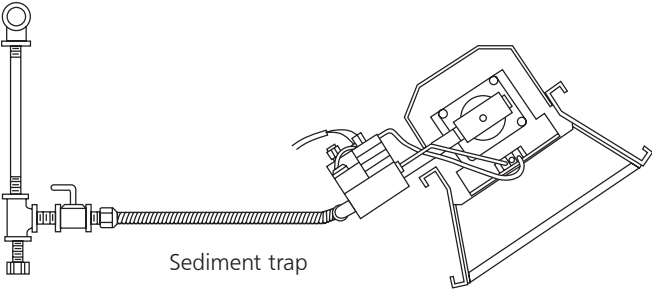

Figure 3. Typical Piping Installation
- A sediment trap meeting the typical requirements of Figure 3 shall be installed in the line to the gas valve.